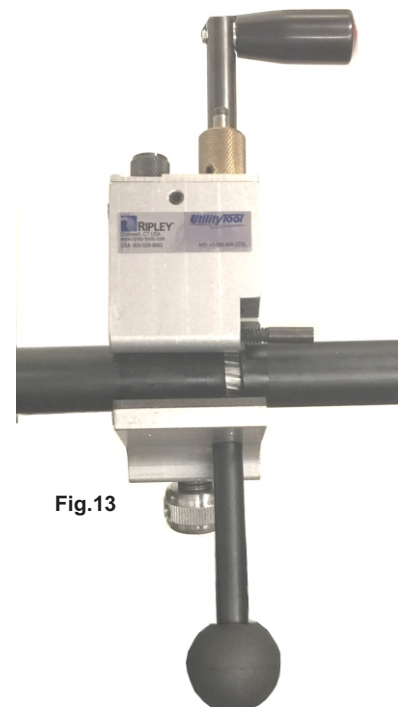

Fig.13
- Turn the blade depth knob 1 to 2 turns to drop the blade. Rotate the tool to remove a thin segment of insulation. Continue dropping the blade incrementally and cut a deeper channel until the conductor is exposed. Fig.13